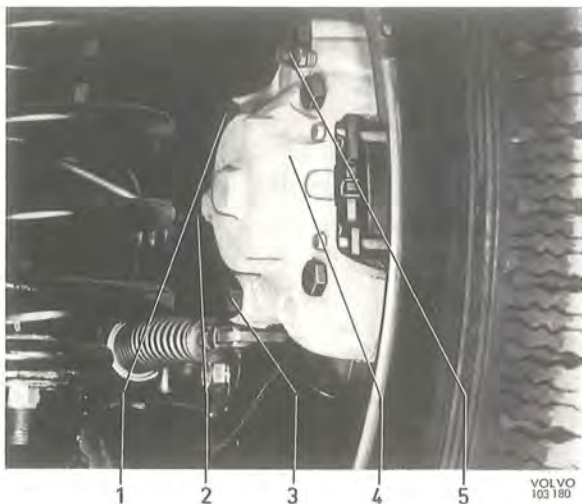

Fig. 5-25. Rear wheel brake unit fitted
3. Disconnect the pipe connection (2, Fig. 5-25) from the caliper and fit a protective cover on the brake line. Remove the attaching screws (1 and 3, Fig. 5-25). Remove the brake caliper, see Fig. 5-26.